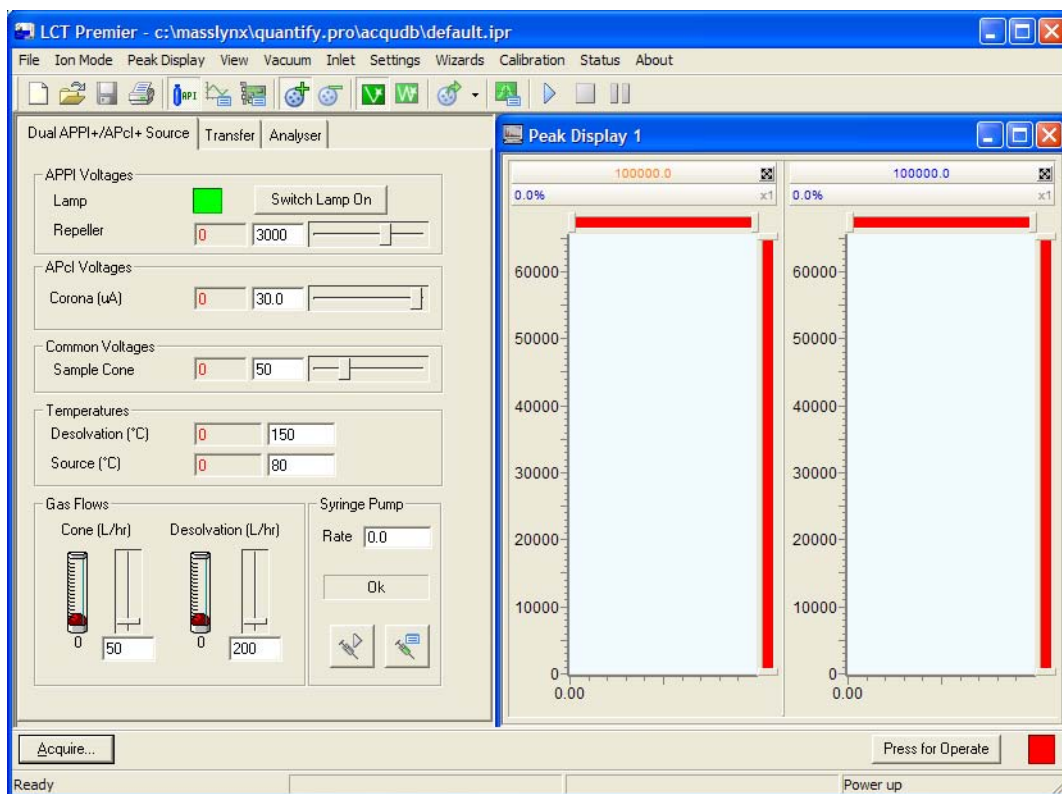

Figure 5-13 APPI+/APCl+ Source Tab
4. Select Settings > Multiple ion modes > Dual APPI/APcI to open the APPI+/APcI+ source tab (Figure 5-13).